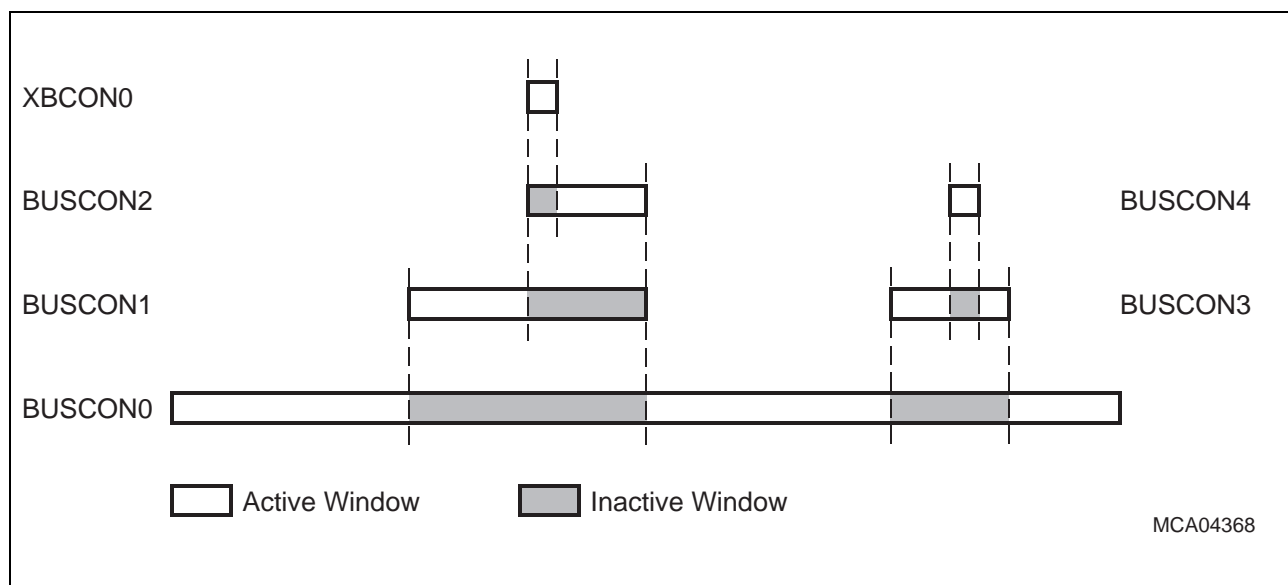

Figure 9-11 Address Window Arbitration
- Priority 2:** Registers ADDRSEL2 and ADDRSEL4 are evaluated before ADDRSEL1 and ADDRSEL3, respectively. A match with one of these registers directs the access to the respective external area using the corresponding BUSCONx register and ignoring registers ADDRSEL1/3 (see Figure 9-11).